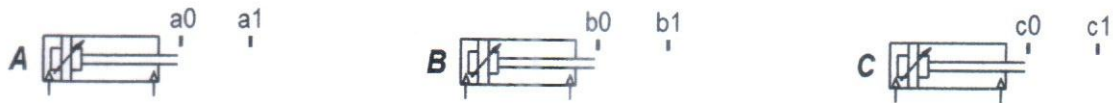

Figure 1 (Question 5 a)
- b) Three pneumatic cylinders (*A*, *B*, and *C*) are shown in Figure 1 with their limit switches *a0*, *a1*, *b0*, *b1*, *c0*, and *c1*, to detect when the cylinders are fully retracted and fully extended. Design and explain the pneumatic circuit diagram to generate the repeat pattern sequence:  $A + B + C + A - B - C -$  by applying the rule "The signal given by the completion of each movement will initiate the next movement". (20)